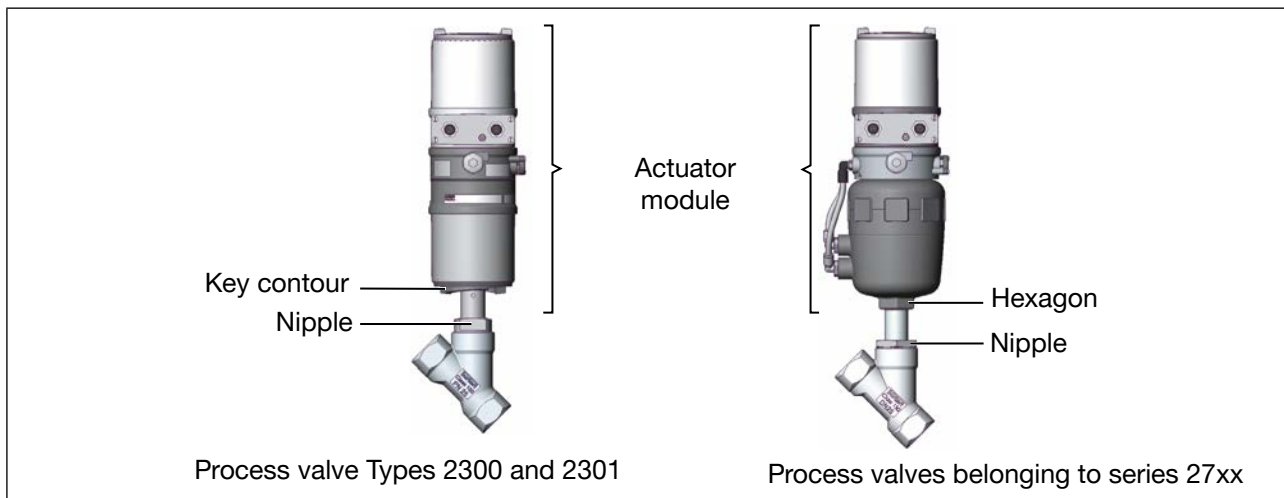

Fig. 21: Rotating the actuator module
- ▶ The actuator module must only be turned in the specified direction (see “Fig. 21: Rotating the actuator module”).